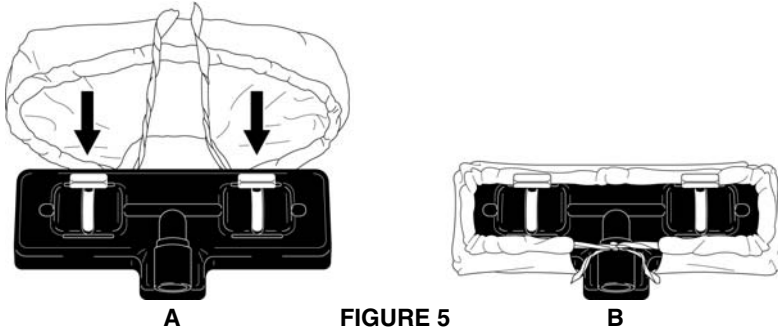

FIGURE 5
1. Wrap Cloth Cover around bottom of Utility Head, so that string-ties are positioned around rear connection of Head (FIGURE 5-A).
2. Tie string-ties together to secure Cloth to Head (FIGURE 5-B).